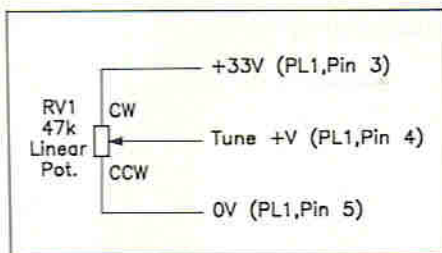
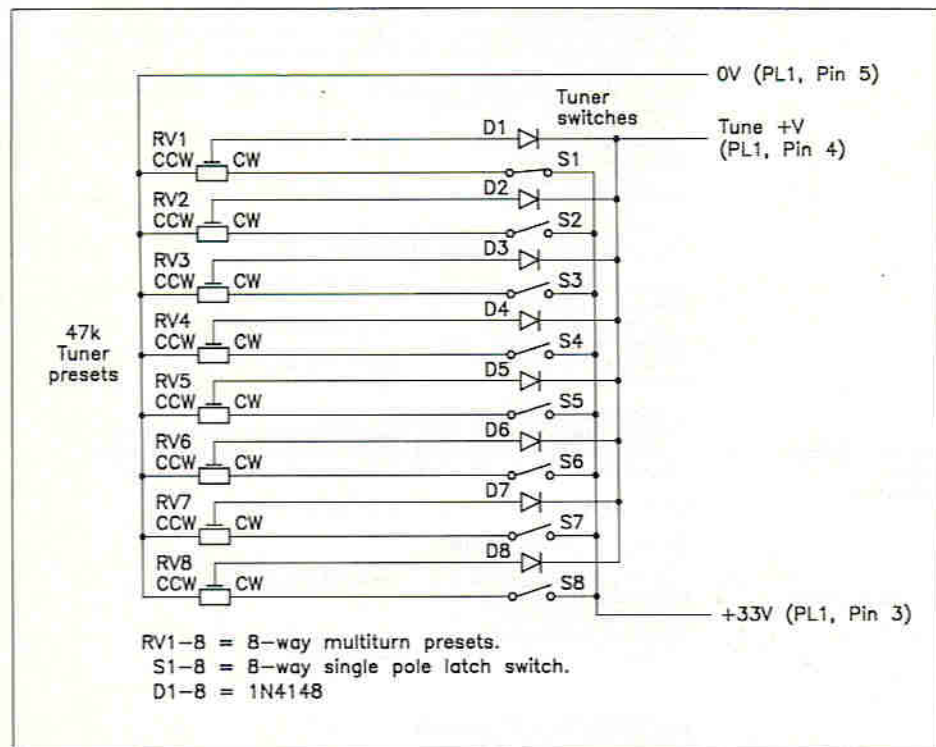
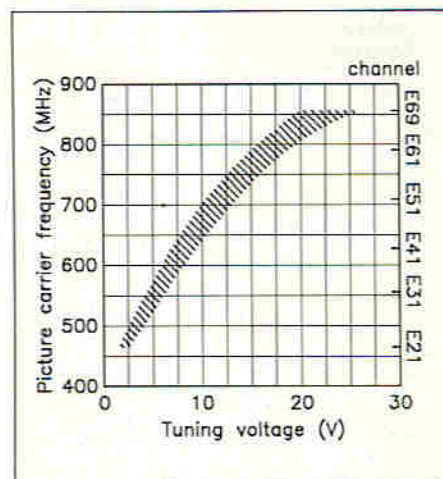

Figure 3a. Simple tuning control.
Figure 3b. 8-way preset tuning selector.
Figure 4. Tuning voltage response.
To select the desired TV channel a tuning control must be placed between the +33V on pin 3 of PL1 and tune input on pin 4. As can be seen from the simple tuning control in Figure 3a, the tuning voltage appears on the wiper of the rotary potentiometer with the 0V ground reference (PL1 pin 5) at the fully Counter ClockWise (CCW) position. As the control is advanced the tune voltage will increase until the wiper reaches the fully ClockWise (CW) setting. Figures 3b and 3c show more elaborate tuning systems using multiturn presets and latch switches enabling rapid station selection. Figure 4 shows the relationship between the tuning voltage, picture carrier frequency and channel number.
Tuning voltage range (Figure 4)	+1 to +28V